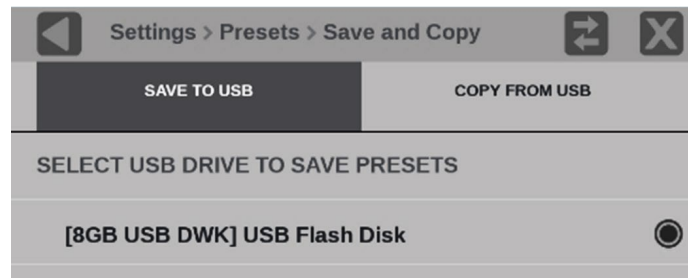

Figure 75: PRISM Settings in the Save and Copy USB Presets submenu with SAVE TO USB selected
4. Select **Save and Copy USB Presets** and then select **SAVE TO USB**. (See Figure 75.)